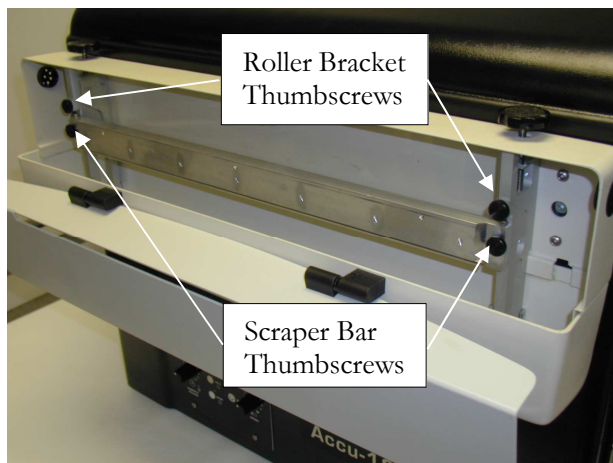
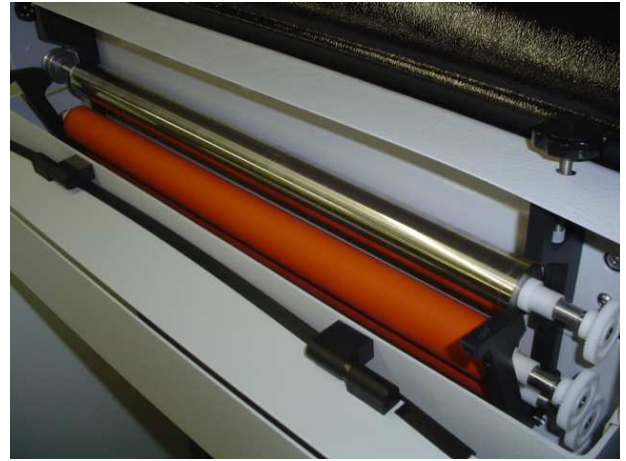

Figure 2: Scraper Bar and Roller Brackets
Figure 3: Roller Assembly with Roller Brackets Open
2. Remove the scraper bar by removing the two thumbscrews that attach it to the roller assembly (see Fig. 2).
3. Remove the roller bracket thumbscrews and open the roller brackets (see Fig 2 and Fig 3).